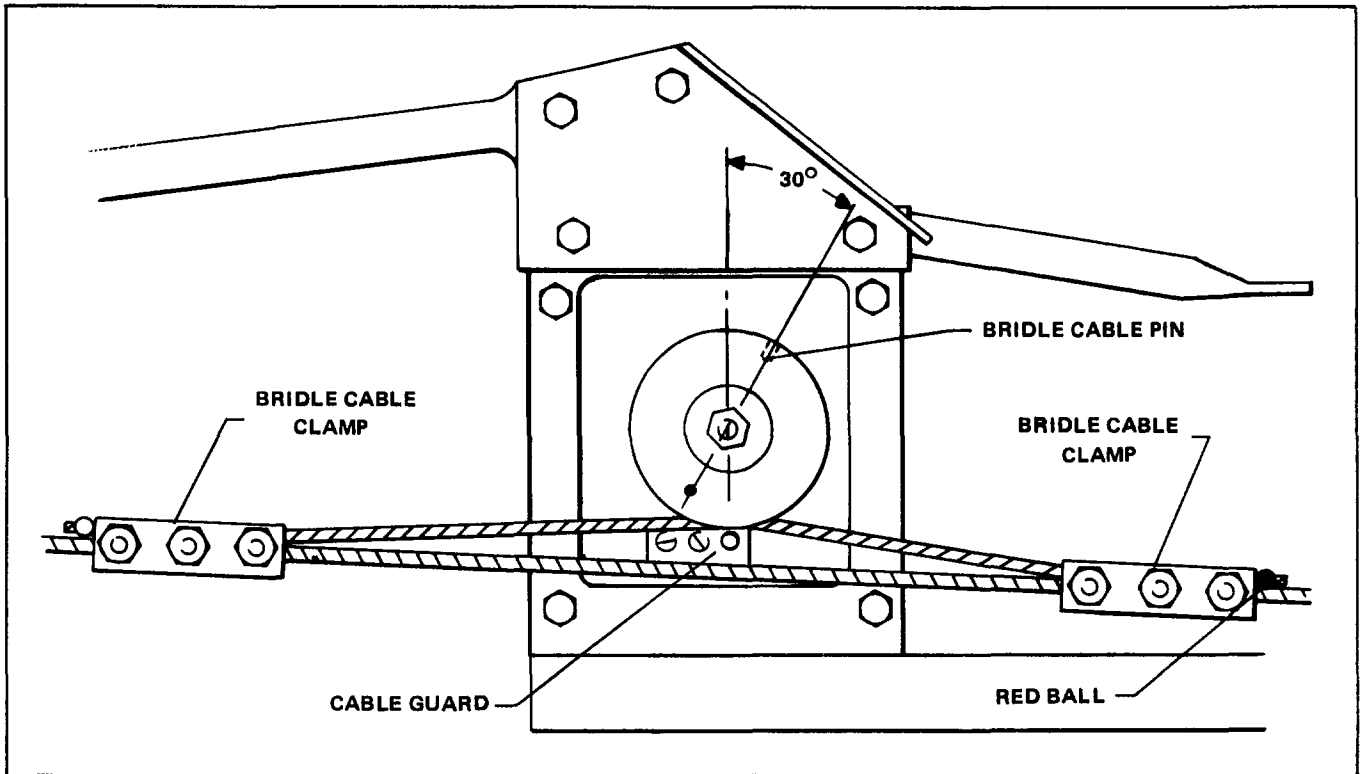

Figure 3-31. Pitch Servo Installation, PA-34-200T
3-114. INSTALLATION OF PITCH SERVO. (PA-34-200T) (Refer to Figure 3-31.)
- e. REFER TO FIGURE 3-9 AND CHECK THAT THE CONTROL CABLE TENSION (Z) IS ADJUSTED TO 40 + 5 - 0 POUNDS (WITH DOWN SPRINGS DISCONNECTED) PRIOR TO ATTACHING THE BRIDLE CABLE CLAMPS. Ascertain area on cable where clamp attaches is clean, dry and free of all lubricants and anti-corrosive additives. Attach the bridle cable to the stabilator control cable. The bridle cable is drawn to the right stabilator control cable and attached with clamps at the previously painted locations on the control cable. The longest portion of the bridle cable or the end with the red ball extends aft. (Refer to Figure 3-31.) (Should the balance cable not be painted, position the control wheel full forward and with the servo disengaged, position the capstan pulley so that the bridle cable pin is aligned as shown in Figure 3-31.) Adjust the bridle cable clamps so the bridle cable tension (Y) is equal to the control cable tension +0 - 15% between the bridle cable clamps (X) as shown in Figure 3-9 without increasing the control cable tension from the bridle cable clamps outward. At no time shall the bridle cable